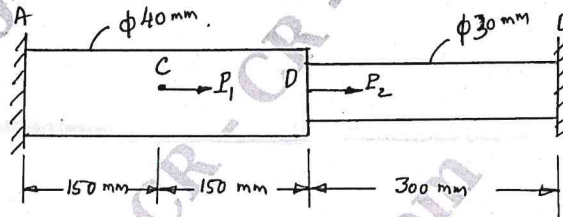

Fig.Q1(c)
- c. A stepped bar of steel, held between two supports as shown in Fig.Q1(c), is subjected to loads $P_1 = 80 \text{ kN}$ and $P_2 = 60 \text{ kN}$. Find the reactions developed at the ends A and B.